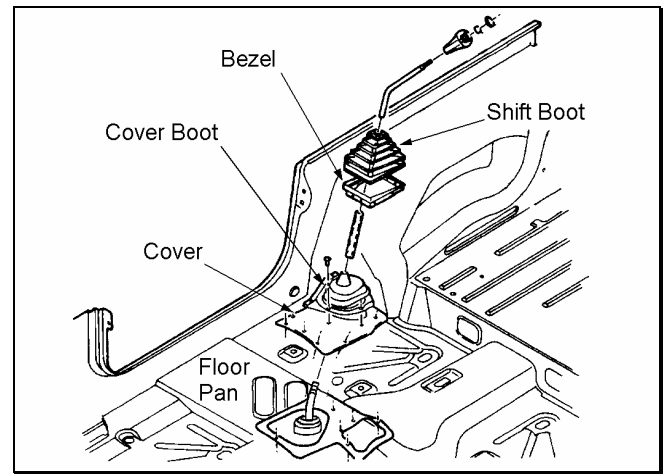

Figure 21
2) ☐ Pry up the shift boot and bezel from the floor console. See figure 21.